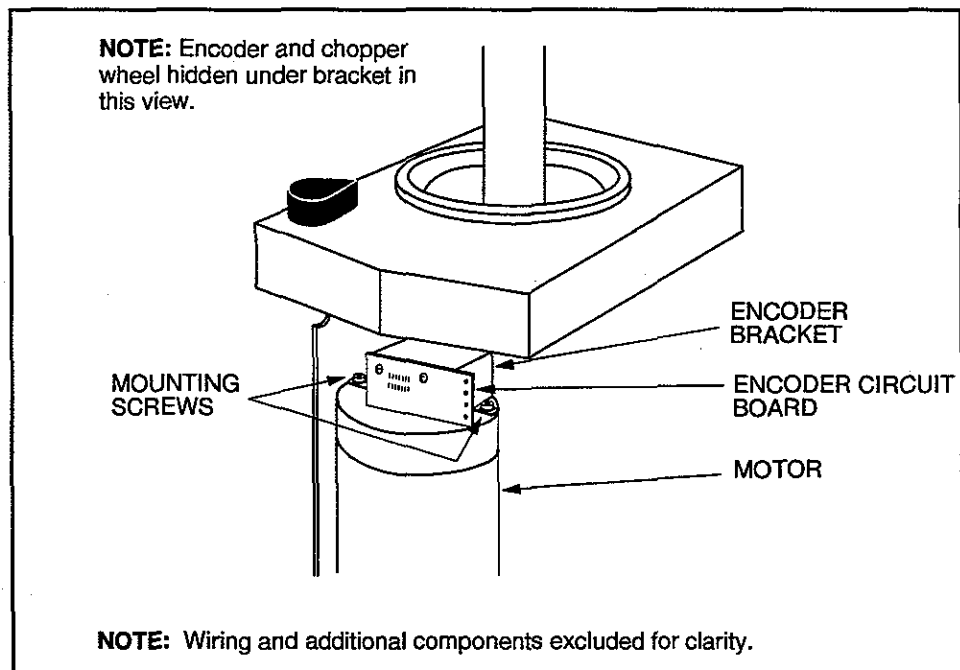

Figure 6-2
1. Turn potentiometer P1 on the Encoder Circuit Board fully counter-clockwise. See Figure 6-2 for location of the Encoder Circuit Board.
2. Make coarse adjustment by moving the encoder bracket. See Figure 6-2.